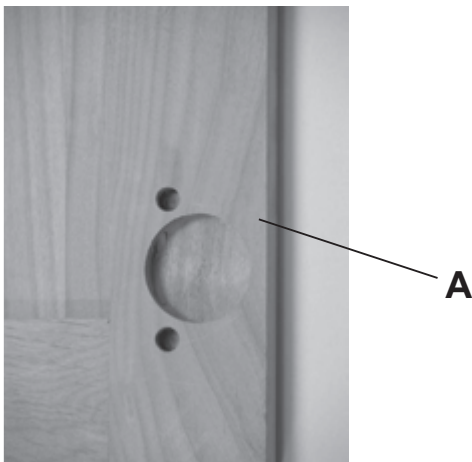

Fig. 2
2. There are predrilled holes in the door as shown in Figure 2. This is where you will be inserting the hinge part of the assembly. Insert the Hinge (D) assembly that has the plastic knobs into the predrilled holes in the bottoms and tops of the Doors (A). See Figures 2 and 2a. **You must place both Hinges into the Door before you attach them to the bookcase.**